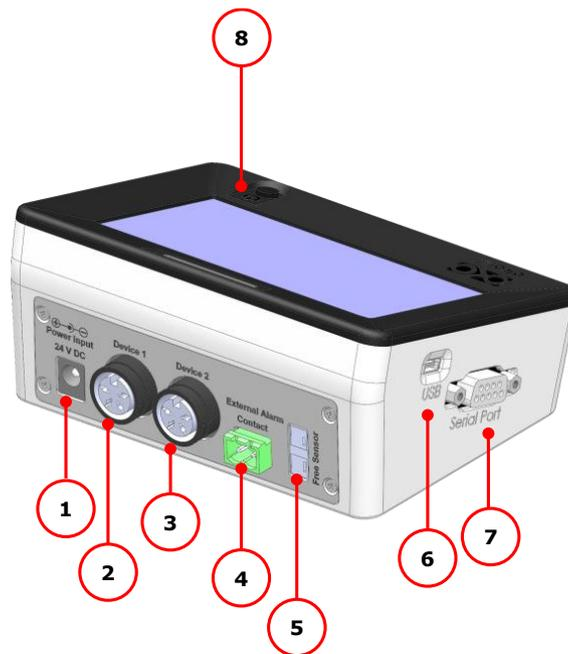
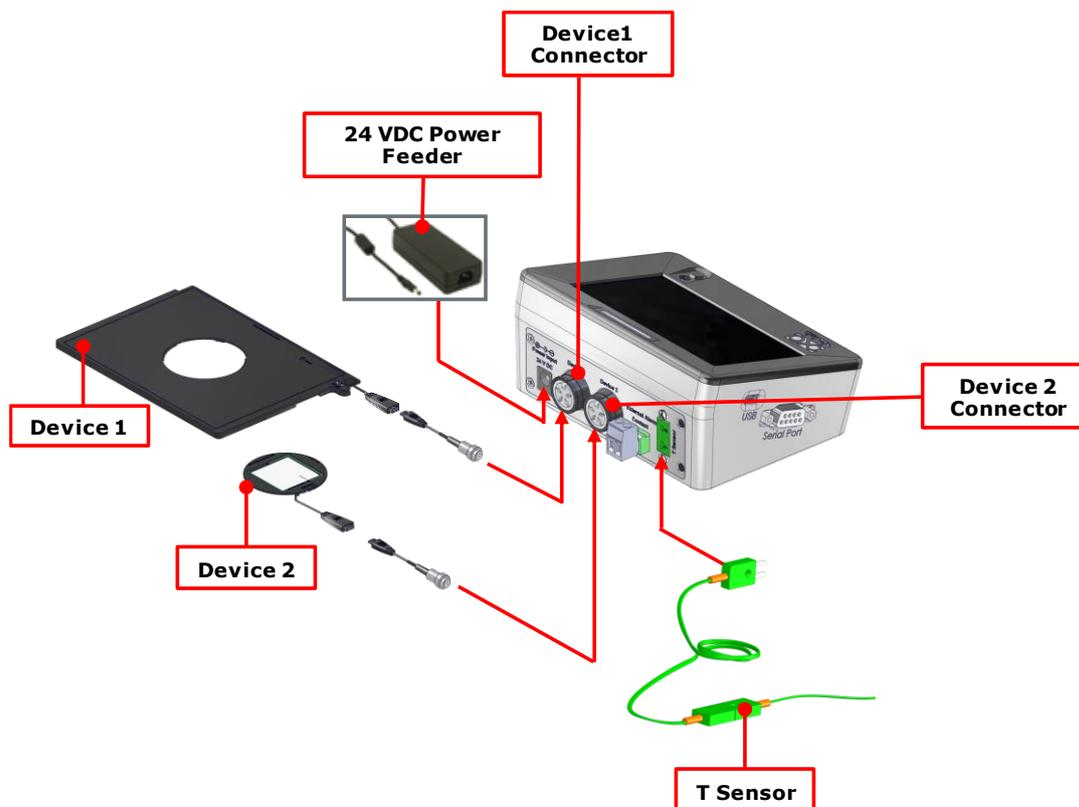

Figure 3. H401-T-CONTROLLER – Equipment description.
Figure 4. Connection of the heating devices
A detailed description of the H401-T-CONTROLLER is provided in the following list, which refers to the pointers in Figure 3:
- 1 Connect one heating device to the Device 1 connector on the rear panel of H401-T-CONTROLLER (see Figure 4 and pointer 2 in Figure 3).
- 2 Connect the other heating device (if available) to the Device 2 connector on the rear panel of the H401-T-CONTROLLER (see Figure 4 and pointer 3 in Figure 3).
- 3 Connect the T Sensor to the T Sensor connector on the rear panel of H401-T-CONTROLLER (see Figure 4 and pointer 5 of Figure 3).
- 4 Connect the Power Feeder to the Power Input (see Figure 4).
Do not connect AC power supply to your device until you have completed all the connections including the connection of the DC power supply cord to the rear panel of the H401-T-CONTROLLER as shown in Figure 4